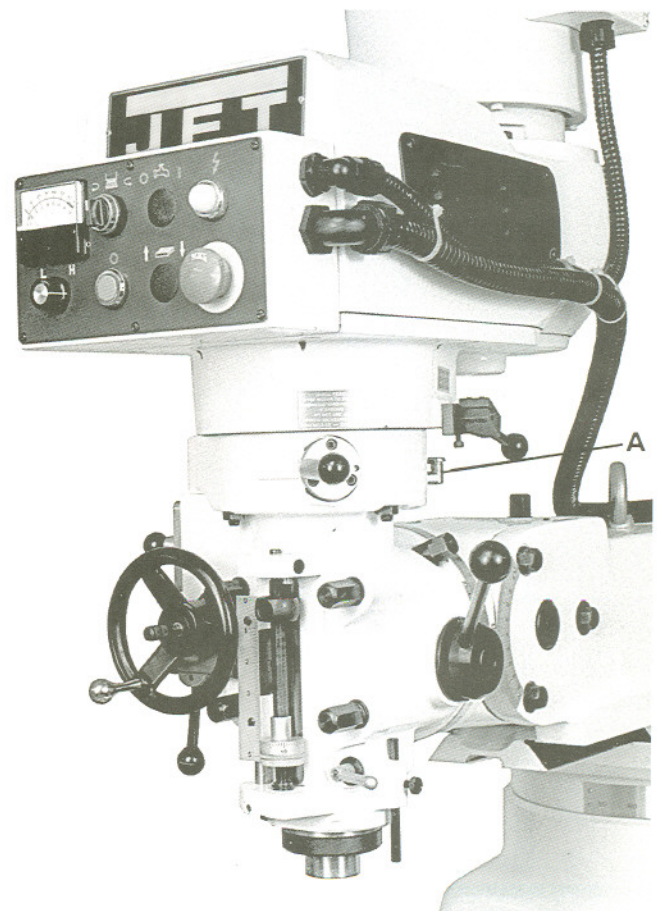

Fig.3
**Spindle Bearings** – (A, Fig. 3) fill oil cup once daily with 10W-machine oil.